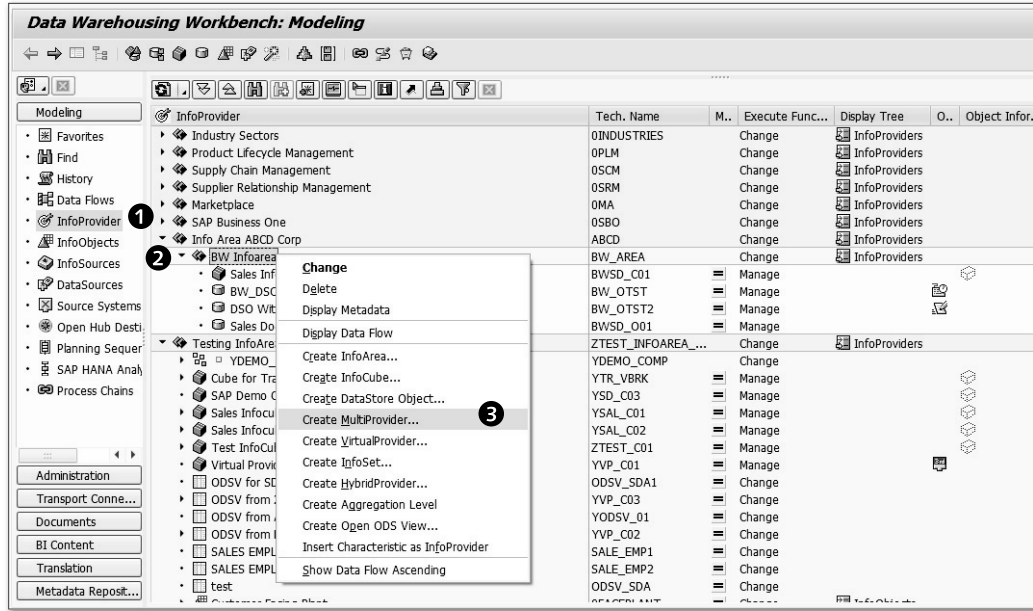

Figure 6.3 Creating a MultiProvider
From the DATABASE WAREHOUSING WORKBENCH screen (Transaction RSA1), select INFOPROVIDER from the MODELING section, as shown in ❶ of Figure 6.3. A Multi-Provider is created under an InfoArea, so select BW_INFOAREA ❷. Open the context menu of BW_INFOAREA, and select CREATE MULTIPROVIDER ❸.